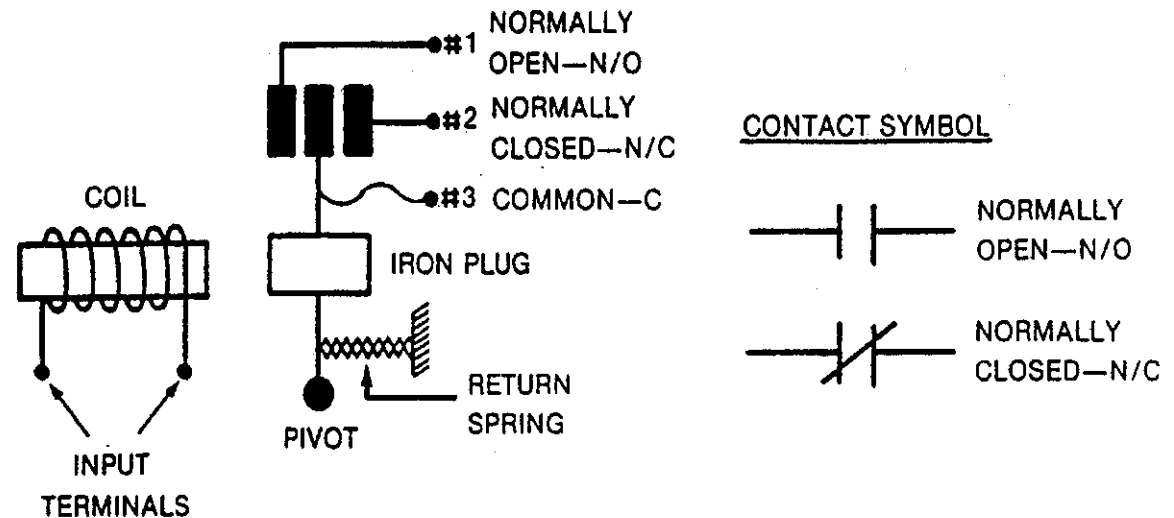

Figure 9: A Simplified Relay Circuit.
- Energizing the relay coil will provide a certain contact status whereas de-energizing the relay coil will provide the opposite status. A simplified electromagnetic relay is shown in Figure 9.
- Contact #3 is always connected to either contact #1 or #2, it is therefore called the common (C) contact.